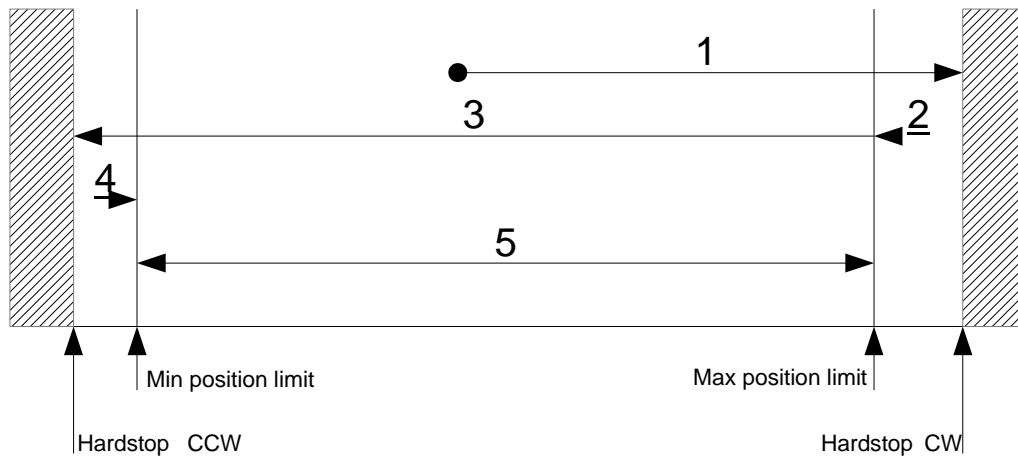

Figure 9: Double ended homing CW
For this homing method, the motor is driving with a constant positive velocity (6099h:2) clockwise into a hardstop (1) as shown in Figure 9. While driving into the hardstop the actual motor current is measured and compared with the current threshold (2025h:4). If the current threshold is reached, the motor moves back by -PositionOffset\_CW (2025h:2) encoder steps (2). There, the actual position (6064h) and the max position limit (607Dh:2) are marked and the motor drives in the negative (counter clockwise) direction with a constant negative velocity (3). If the negative current threshold is reached, the motor moves back by +PositionOffset\_CCW (2025h:3) encoder steps (4). Then the motor is stopped and the min position limit (607Dh:1) and the actual position value (6064h) are set to 0. The velocity is limited to (6099h:1).